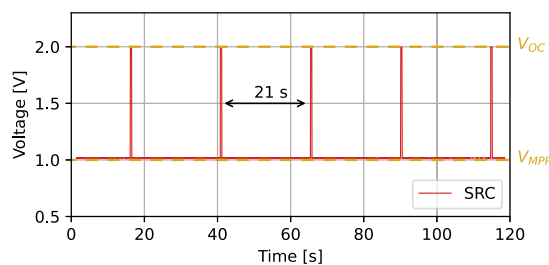

Figure 4: SRC voltage behavior while harvesting (BATT voltage under **V_{OVCH}**)
- **SRC** is then regulated at **V_{MPP}** as shown on Figure 4, which is a voltage equal to the open-circuit voltage (**V_{OC}**) multiplied by the MPPT ratio (here 50%). During the MPPT evaluation, the AEM20941 stops pulling current from **SRC**, letting **V_{SRC}** rise to **V_{OC}**.